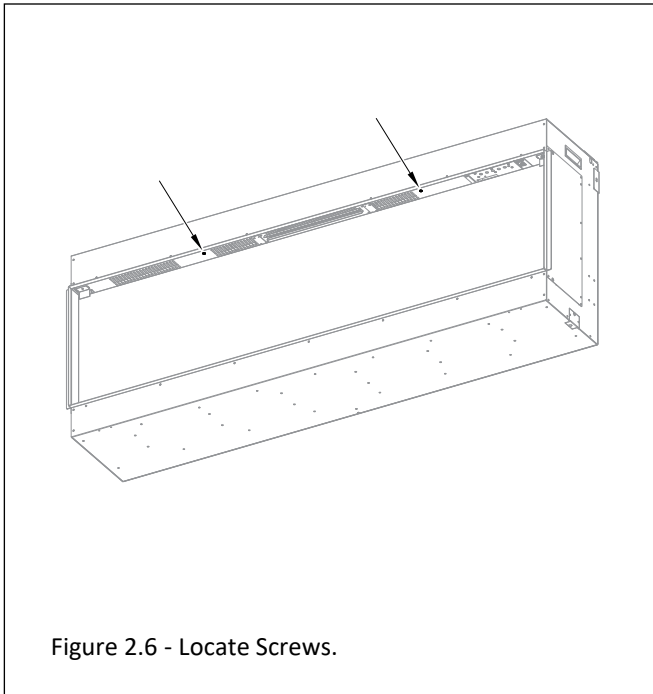

Figure 2.6 - Locate Screws.
1. Locate the (2) phillips screws shown in Figure 2.6. Remove these screws.